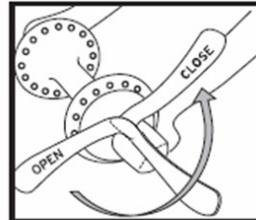

Figure 34- Proper lever throw
- Place the lever in the palm of your hand and throw the lever as shown in Figure 34 to the **CLOSE** position (Figures 36-37). At the half-closed position of the lever, there should be some resistance.